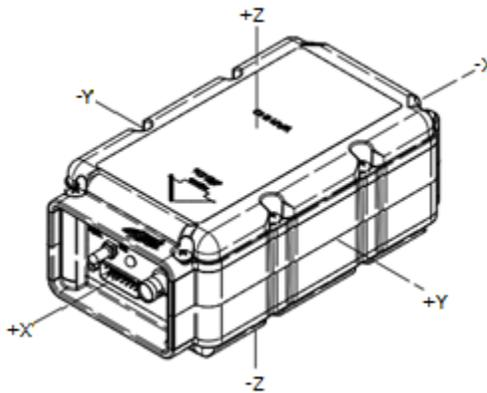

Figure 1 ELT Orthogonal Axes
- 1) The ME406HM ELT is designed for helicopter installations and features a 5-axis G-Switch module in addition to the primary G-switch, which is oriented to line-of-flight. This design allows the ELT to be activated in all six axes. See Figure 1 ELT Orthogonal Axes